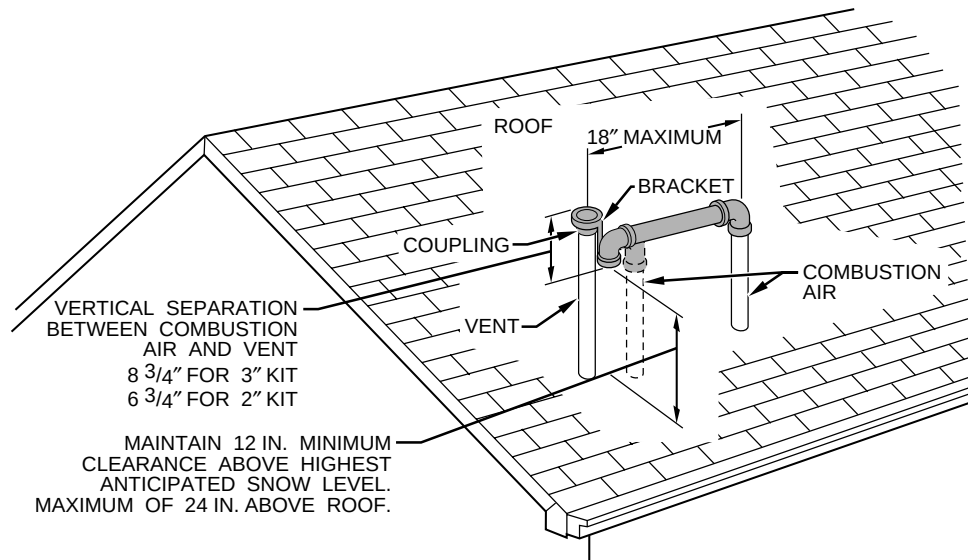

Fig. 40—Direct Vent Roof Termination (Preferred)
Combustion-air and vent pipes must terminate outside structure. A factory accessory termination kit must be installed in 1 of the installations shown in Fig. 40, 41, 42, 43, and 44. Four termination kits are available.
NOTE: Shaded parts in Fig. 40, 41, 42, 43, and 44 are considered to be termination. These components should NOT be counted when determining pipe diameter. Roof termination is preferred since it is less susceptible to damage, has reduced chances to take in contaminants, and has less visible vent vapors. (See Fig. 40 or 41.) Sidewall termination may require sealing or shielding of building surfaces with a corrosive resistance material due to corrosive combustion products of vent system.
Roof terminations—Loosely install pipe coupling on properly cut vent pipe. Coupling must be positioned so bracket will mount as shown in Fig. 40.
For applications using combustion-air pipe option, indicated by dashed lines in Fig. 40, install 90° street elbow into 90° elbow, making U-fitting. A 180° U-fitting may be used.
5. Check required dimensions as shown in Fig. 40, 43, or 44.